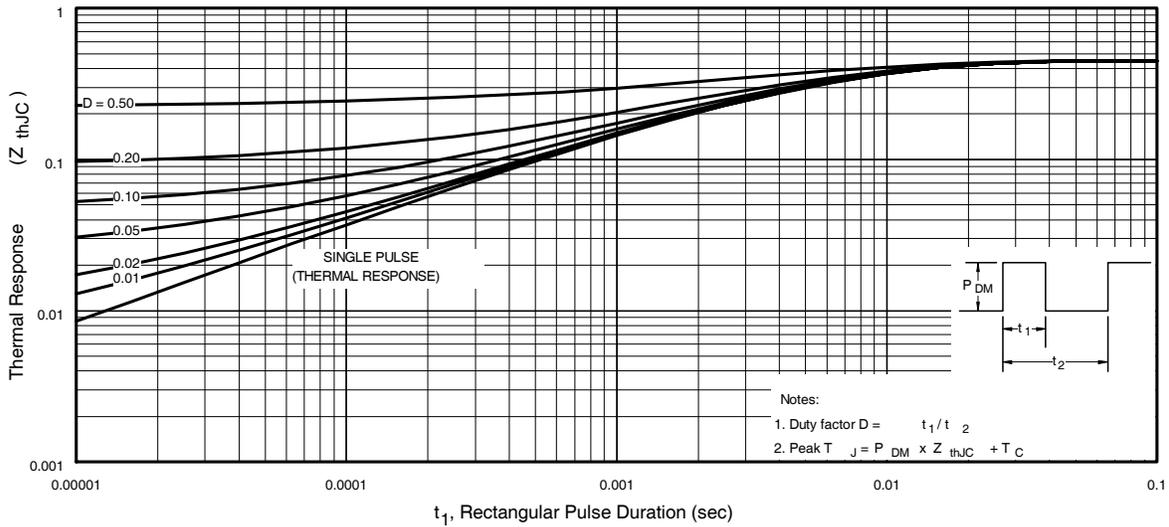

Fig 11. Maximum Effective Transient Thermal Impedance, Junction-to-Case
- ① Repetitive rating; pulse width limited by max. junction temperature. (See fig. 11).
- ② Starting $T_J = 25^\circ\text{C}, L = 0.08\text{mH}$
$Z_{thJC}(D, t_{av})$ = Transient thermal resistance, see figure 11)